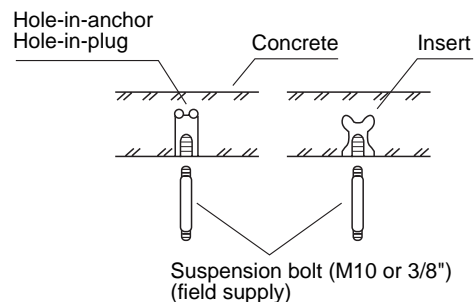

Fig. 3-21
- Insert bolt anchors as shown in Fig. 3-21.